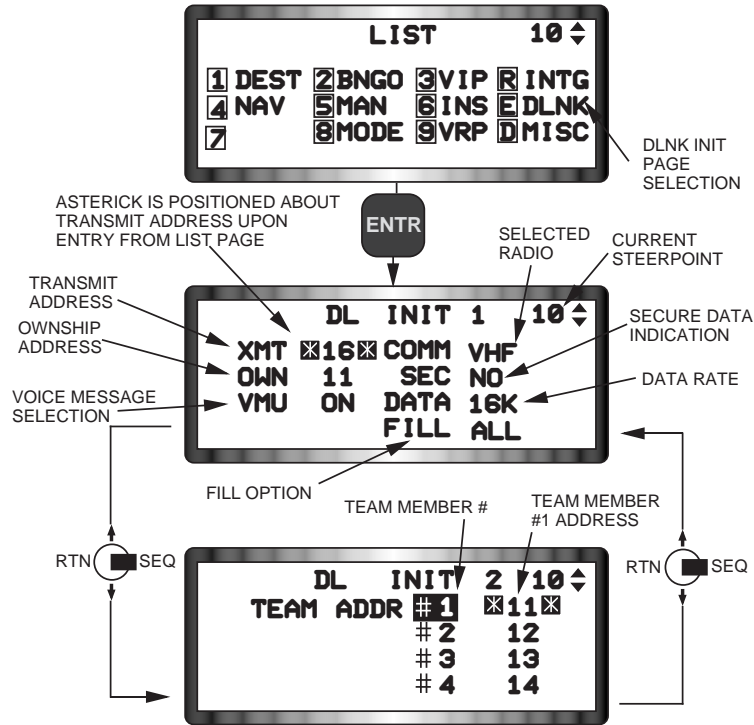

Figure 1-59 Data Link Initialization Pages
**UFC Manual Loading.** The pilot may manually initialize the data link system using the UFC. The DED pages used to input data link initialization parameters are the Data Link Initialization pages, DL INIT 1 and DL INIT 2. These pages are accessed by choosing the LIST page and then pressing the ENTR (E) button to access DL INIT 1. The pilot then toggles between DL INIT 1 and DL INIT 2 by selecting the SEQ position on the DCS (Figure 1-59). The DL INIT 1 page is used to show basic modem settings and control the A-G intraflight setup. The DL INIT 2 page controls the A-A intraflight setup. Initialization data is manually entered by positioning the asterisks around the applicable field with the DCS switch (DCS-Up or DCS